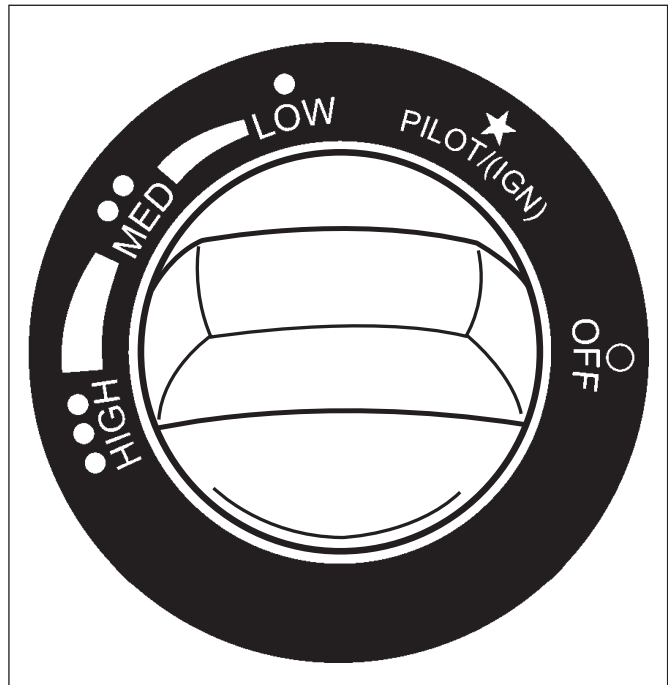

Figure 1
4. Depress and turn Control Knob counterclockwise to "PILOT" position and hold for 15 seconds. With the Control Knob still depressed rotate to the "OFF" position and back to the "Pilot" position to generate a spark at the ignitor. (If needed, repeat until pilot lights). Continue to hold control knob down in "PILOT" position of 30 seconds (See Figure 1).